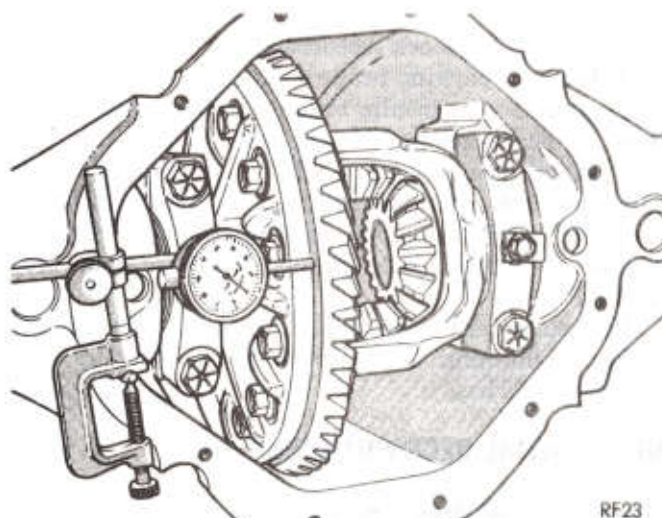

Fig. 11—Measuring Drive Gear Runout
(9) In preparing to measure drive gear runout on differential case, (provided no side play was found) mount a dial indicator Tool C-3339 on pilot stud C-3288-B, and load the indicator stem slightly with plunger at right angles to back face of drive gear (Fig. 11).
(10) Measure drive gear runout by turning drive